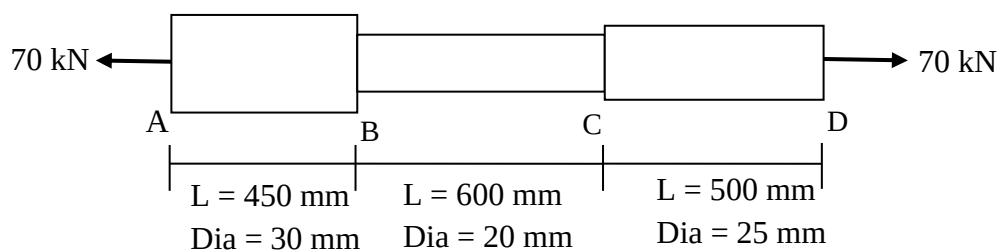

Figure8 [Q-6 (b) (iii)]
- Find the total deformation of the rod ABCD shown in **Figure 8**. Take $E = 200$ GPa.